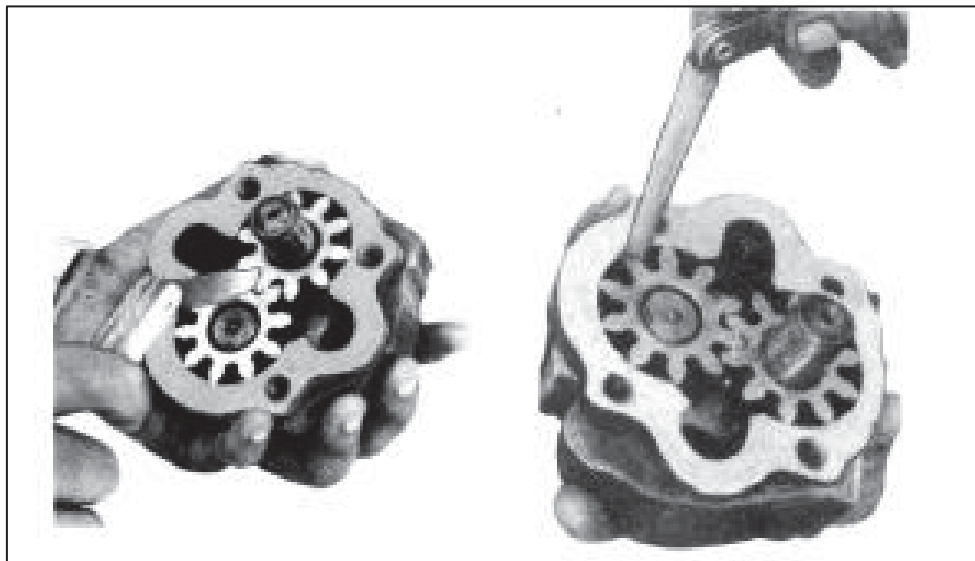

Fig. 2.33 Driving Gear Backlash Measurement
1. Measure the clearances of the pump by using feeler gauge as shown in the following figure 2.33